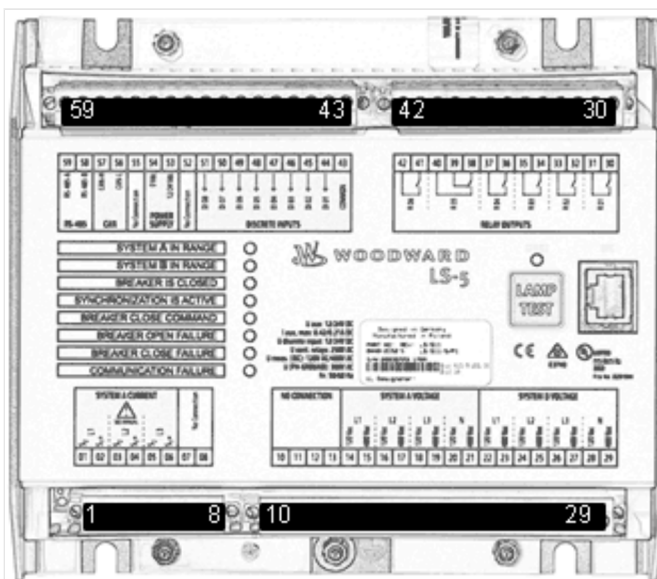

Fig. 20: Sheet metal housing
- Sheet metal housing - shown in Fig. 20